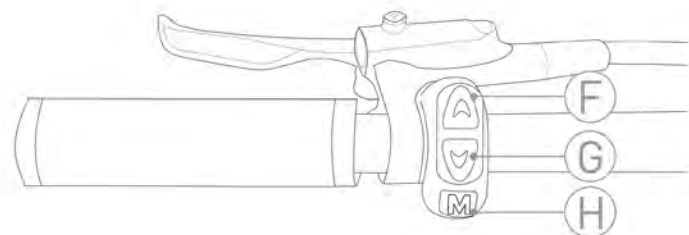

FIG. 5
To activate the walk assistance function, press and hold the "DOWN" button (Ref. G in Figure 5). The engine will activate, and the appropriate warning will be displayed on the display. The engine will shut down in the following cases:
- Release of the "DOWN" button (Ref. G in Figure 5)
By simultaneously pressing the "UP"+"DOWN" buttons (Ref. F-G- Figure 5) for two seconds you can open the menu screen. From any screen, by holding down the "POWER" button for 2", you can return to the last screen home displayed. Once inside you can move in the menu with the "UP" and "DOWN" buttons and press "POWER" as send.
Before pressing the F and G keys at the same time (Figure 5) position yourself firmly on the bike and apply the brake, so as not to unintentionally operate the departure from a standstill.